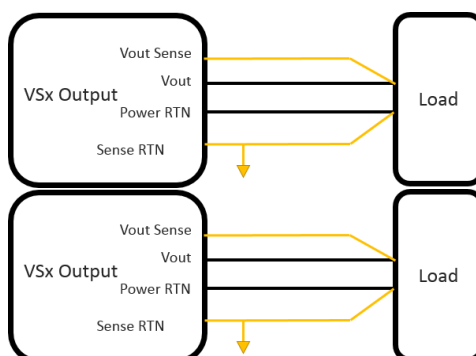

Figure 3: M4054 Sense line connection
*Sense Lines* are provided for VS1, VS2 and VS3 output to compensate line voltage drop. *Sense Lines* proper connection is shown in Figure 3.